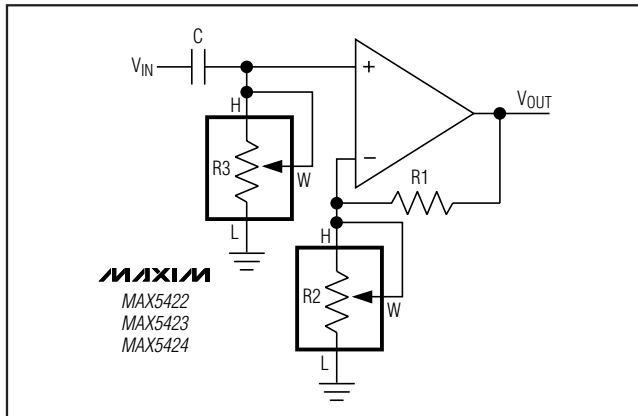

Figure 5. Programmable Filter
Figure 5 shows the configuration for a 1st-order programmable filter. The gain of the filter is adjusted by R2, and the cutoff frequency is adjusted by R3. Use the following equations to calculate the DC gain (G) and the 3dB cutoff frequency (f_c):